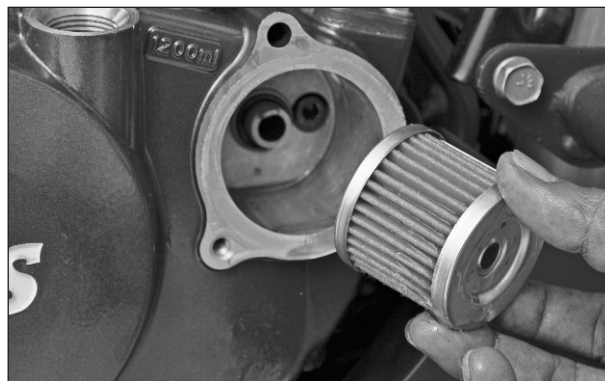

Fig. 4.21
- The filter complete engine oil should be periodically inspected and changed if necessary with a new one. (Fig 4.21)